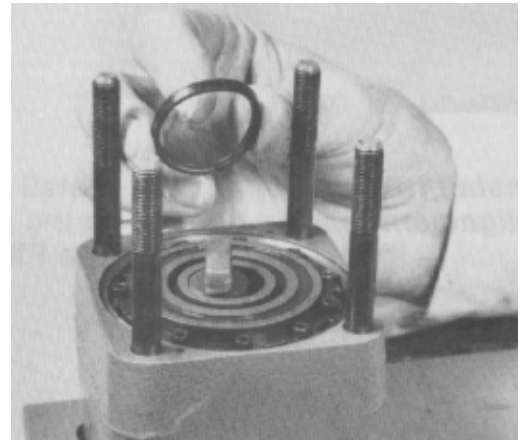

Figure 110
29. Apply clean multi-purpose grease on the new commutator seal and put it into the commutator cover seal groove (Fig. 110). The rubber portion (the softer side) of the seal with the yellow mark must be put into the seal groove.